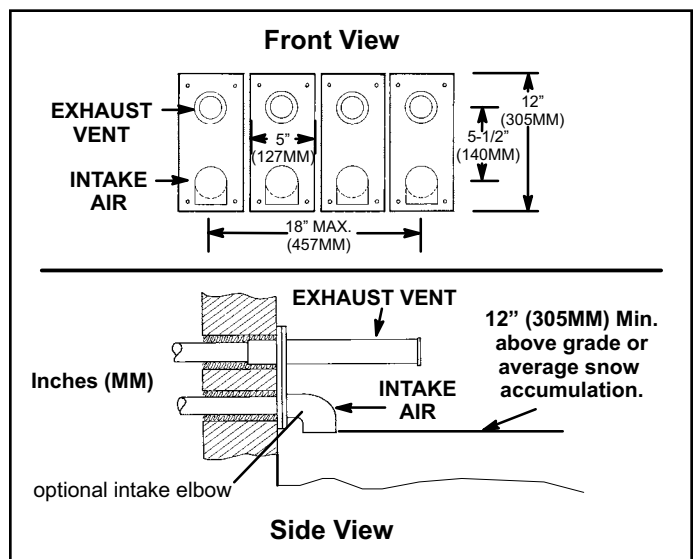

Figure 29. Optional Vent Termination for Multiple Unit Installation of Direct Vent Wall Termination
8. A multiple furnace installation may use a group of up to four terminations assembled together horizontally, as shown in Figure 29.